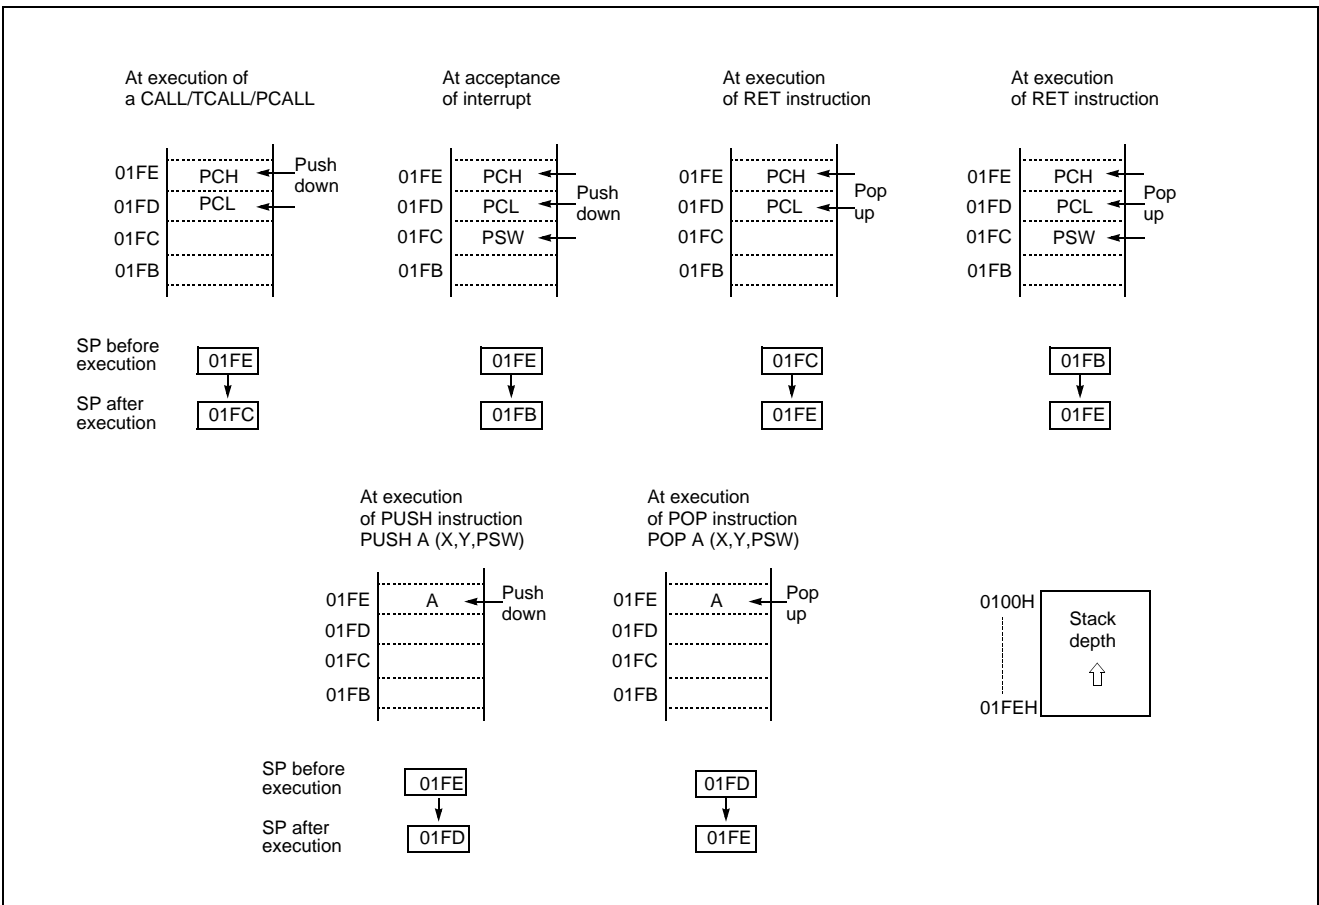

Figure 8-4 Stack Operation
The save/restore locations in the stack are determined by the stack pointed (SP). The SP is automatically decreased after the saving, and increased before the restoring. This means the value of the SP indicates the stack location number for the next save. Refer to Figure 8-4 on page 23.